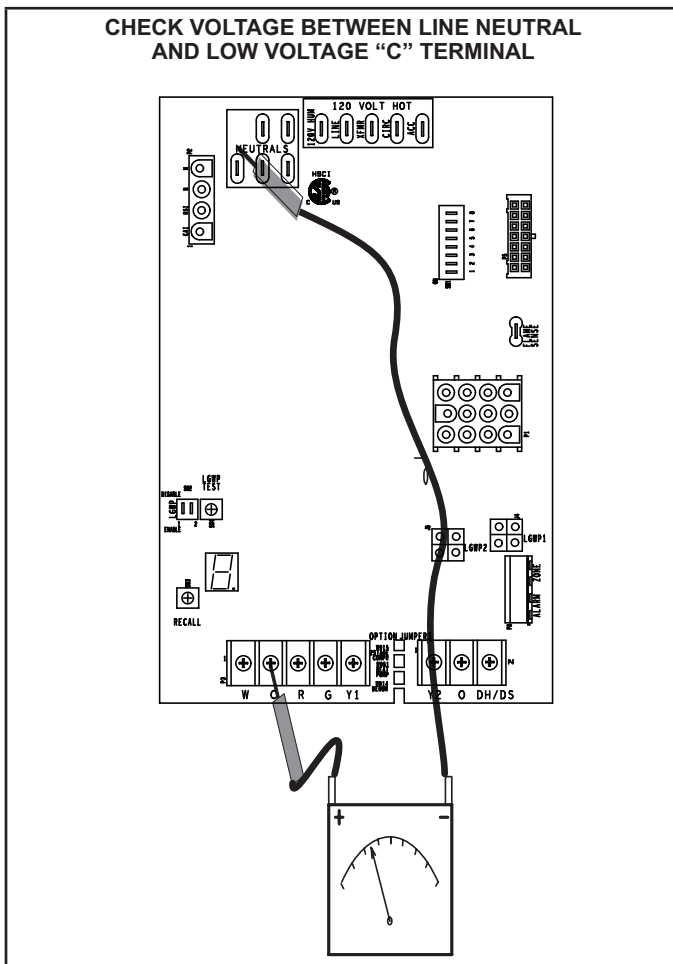

FIGURE 22
- 1 - Measure the AC voltage between Line Neutral (spade terminals) and "C" terminal (low voltage terminal block) on the integrated control. See FIGURE 22. A wide variation in the voltage between Line Neutral and "C" as a function of load indicates a poor or partial ground. Compare the readings to the table below. If the readings exceed the maximum shown in TABLE 19, make repairs before operating the furnace.